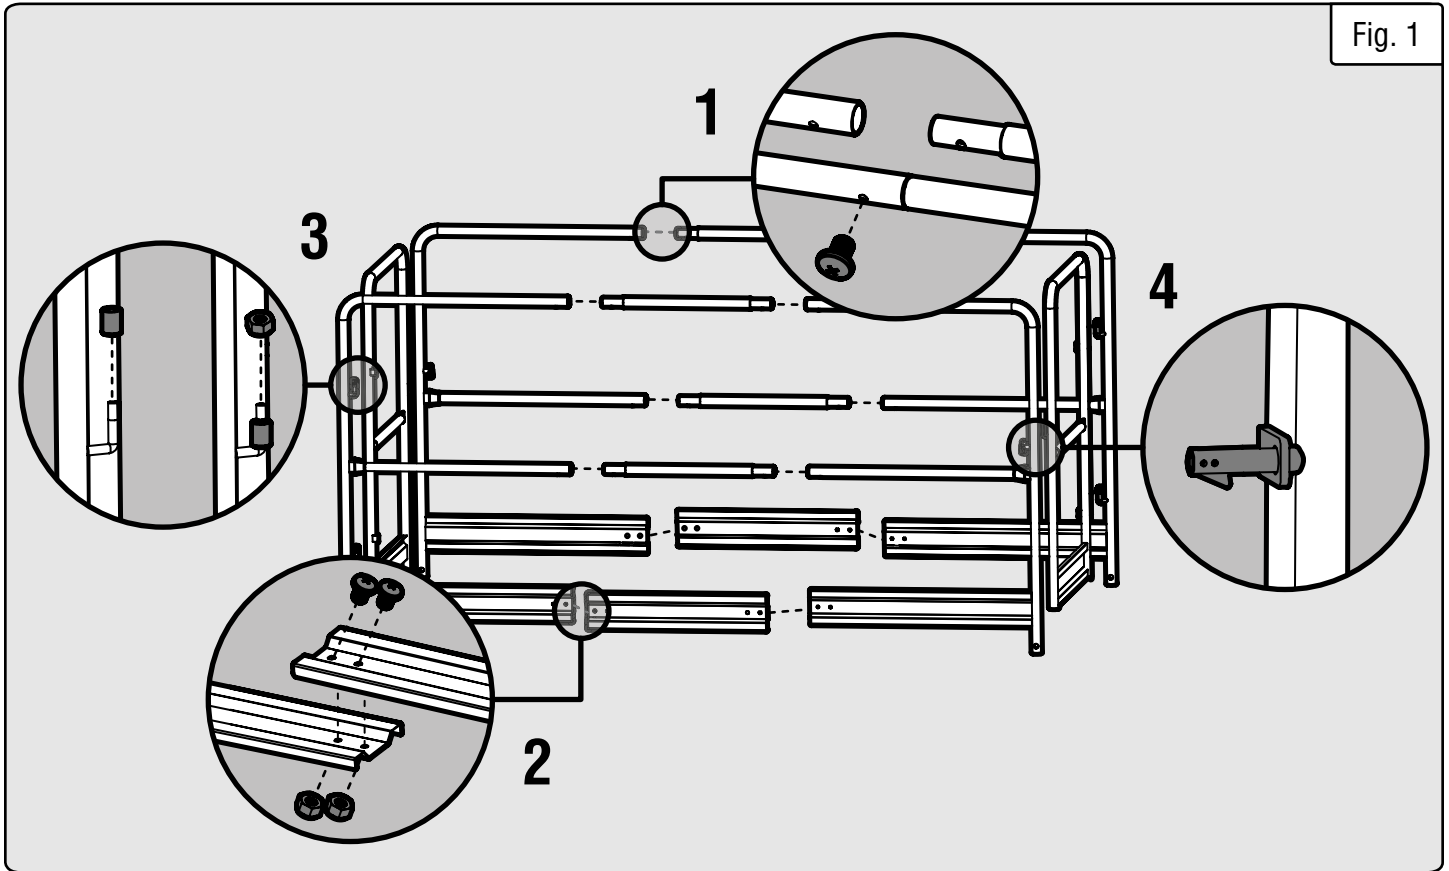

Fig. 1
1. Connect the hinge and toggle lock panels together using two connector pieces and four M6x10 bolts. Repeat this step for the second set of hinge and toggle lock panels (Fig. 1 - 1).
2. Connect the bottom of the hinge and toggle lock panels together with a toe board and secure with four M8x12 bolts and four nuts. Repeat this step for the second set of hinge and toggle lock panels (Fig. 1 - 2).
3. Connect the door to the hinge panel by sliding the door hinges over the posts on the hinge panel and securing each with a nut. Repeat this step for the second hinge panel (Fig. 1 - 3). Do not overtighten the nut, or the doors will not be able to move.
3. Make sure that the access doors swing inward over the platform. Lock the access doors with the door latch on the toggle lock panel (Fig. 1 - 4). Always make sure the latch is secured and the door cannot swing open when someone is on the platform.